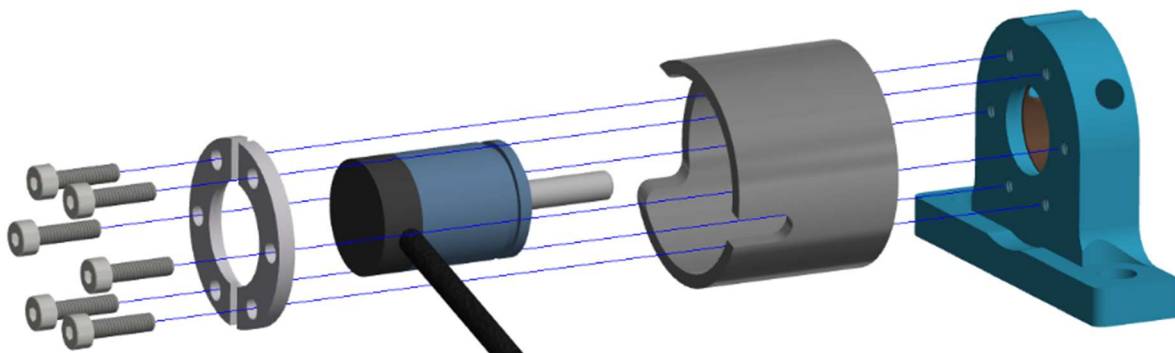

Figure 10-43. Attach the X-potentiometer to an Ankle Bushing Plate (474-5826)
10.3.8 Attach the X-potentiometer to the Ankle Bushing Plate (474-5826) using a Potentiometer Cap (483-5825), a Potentiometer Clamp (472-7581), and six M2 X 0.4 X 8 LG. SHCS (Figure 10-43).